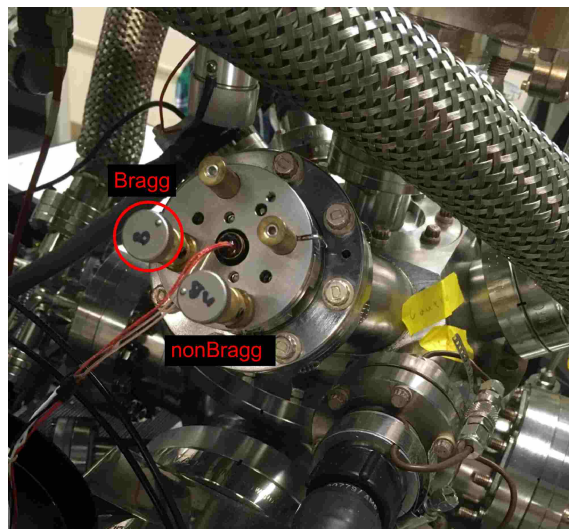

Figure 7 Quartz Monochromator adjustments. Bragg control marked B
4. Adjust the Z motor control of the stage to maximize the counts for Au. Remove the cover of the controls for the monochromator crystal (black plastic cap to the left of the microscope). There are two controls for the monochromator the Bragg and nonBragg control. The Bragg control is at 8 and nonBragg is a 5 o'clock, Fig 7.